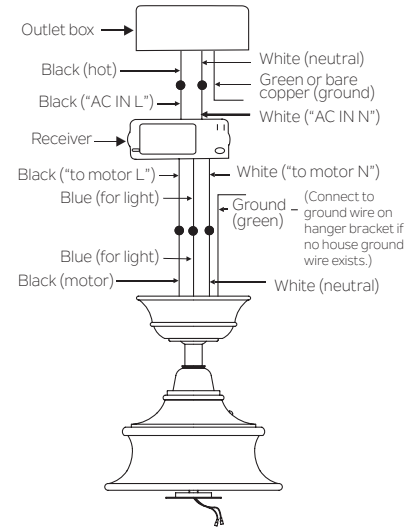

Fig. 14
**Step 2.** Motor to Receiver Electrical Connections: (Fig. 14) Connect the black wire from the fan to the black wire marked “TO MOTOR L” on the receiver.
**Step 3.** (Fig. 14) Receiver to House Supply Wires Electrical Connections: Connect the black (hot) wire from the ceiling to the black wire marked “AC in L” from the receiver. Connect the white (neutral) wire from the ceiling to the white wire marked “AC in N” from the Receiver. Secure the wire connections with the plastic wire nuts provided.
**Step 4.** (Fig. 14) If your outlet box has a ground wire (green or bare copper) connect it to the fan ground wires; otherwise connect the hanging bracket ground wire to the mounting bracket. Secure the wire connection with a plastic nut provided. After connecting the wires, spread them apart so that the green and white wires are on one side of the outlet box and black and blue wires are on the other side. Carefully tuck the wire connections up into the outlet box.